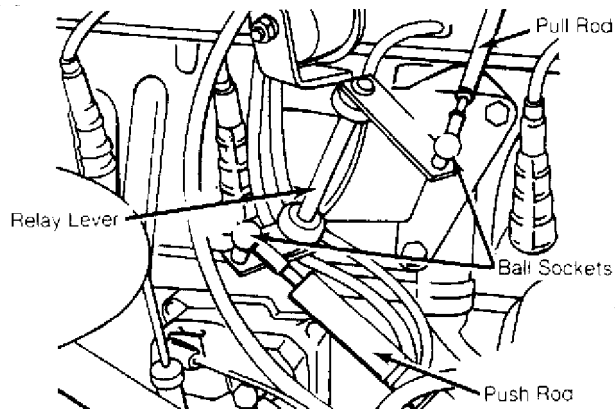

Fig. 5: Quantum Push & Pull Rods
2) Loosen adjusting nut on throttle cable at transaxle. Remove retaining clips for ball sockets of push and pull rods. Pry ball sockets from relay bracket levers. See Fig. 5.